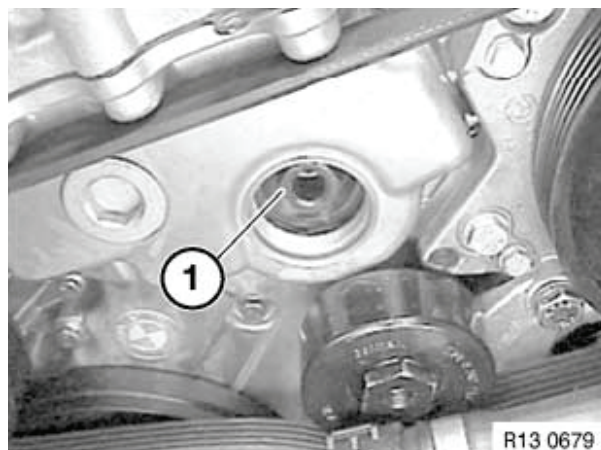

Figure 6-22
10. Hold crankshaft to prevent turning and remove nut (**Figure 6-22, (1)**).